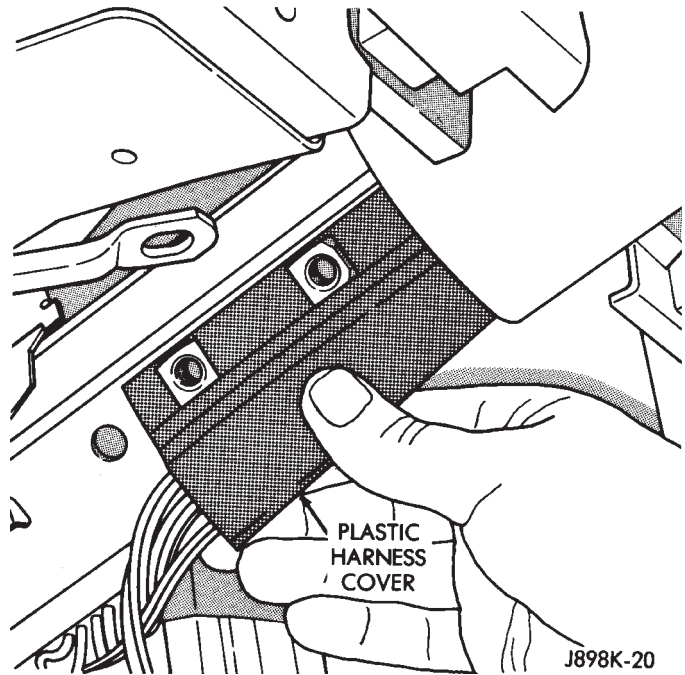

Fig. 15 Remove Plastic Harness Cover
(26) Remove plastic harness cover by pulling it up and over the weld nuts then open and slide the cover off the harness (Fig. 15).
(27) Remove the turn/hazard switch. Pull the switch and wire harness straight up and out of the housing.